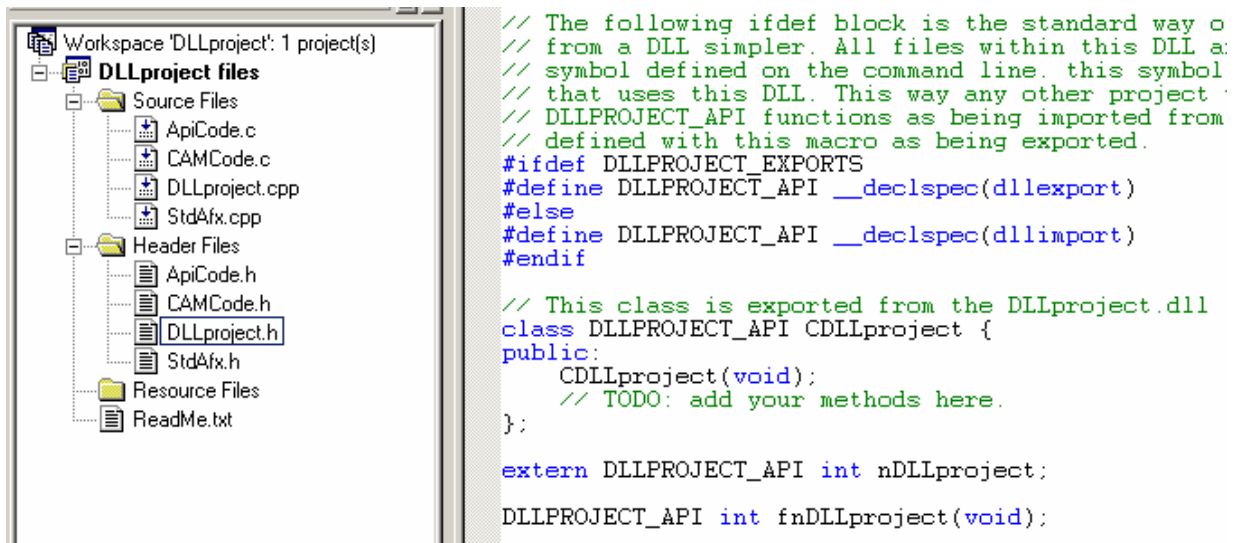

Figure 9: Project header file
- Double click on DLLProject.h to show the code in the edit window on the right (figure 9). Delete the following code: